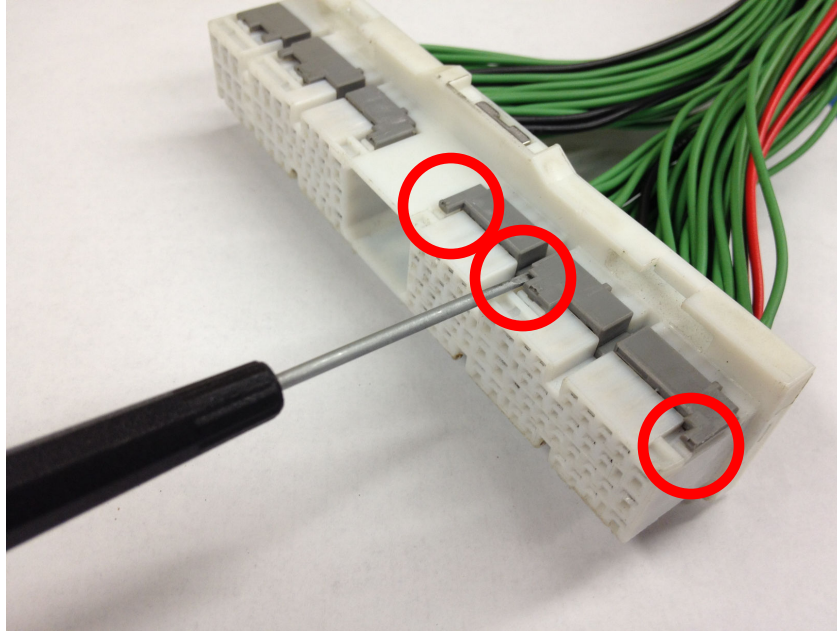

Figure 2: Pry in these areas
1. Locate a small screwdriver (a precision 1.5mm wide flathead screwdriver is recommended) and carefully pry gray plastic retainer using the three slots in the retainer so it disengages vertically about 1mm as shown in figures 2 and 3: